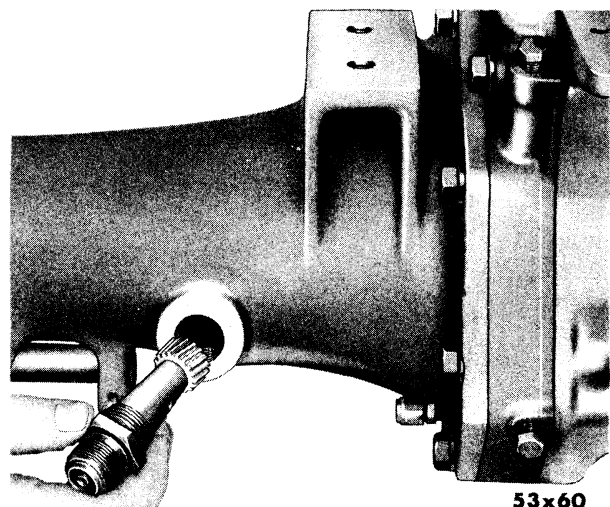

Fig. 47—Removing or Installing the Speedometer Drive Pinion
- (1) Disconnect speedometer cable and housing from sleeve assembly on transmission.
- (2) Remove speedometer pinion and sleeve assembly from transmission extension. (Fig. 47.)